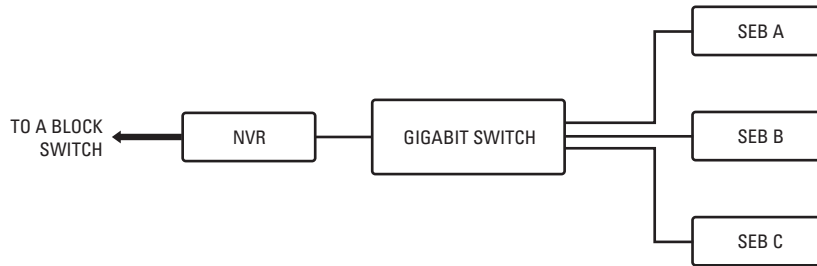

Figure 11. Connecting the NVR5100 and Multiple SE5000Bs
- A dedicated, gigabit Ethernet switch can be used to expand the video storage of the NVR5100. In this case, no more than eight SEB5000s can be interface to a single NVR (refer to Figure 11).